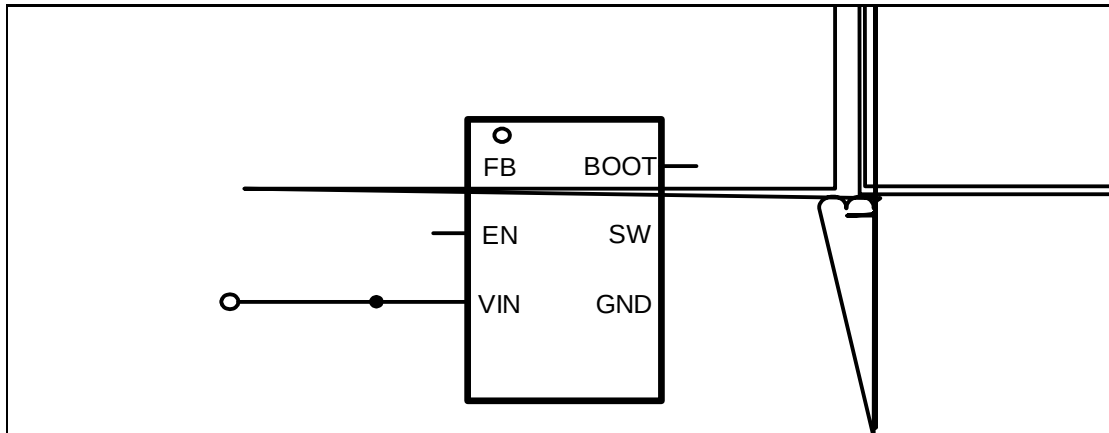

Figure 12. 24V Input, 5V/2A Output
The SCT9320 features external programmable output voltage by using a resistor divider network $R1$ and $R2$ as shown in the typical application circuit Figure12. Use equation (11) to calculate the resistor divider values.